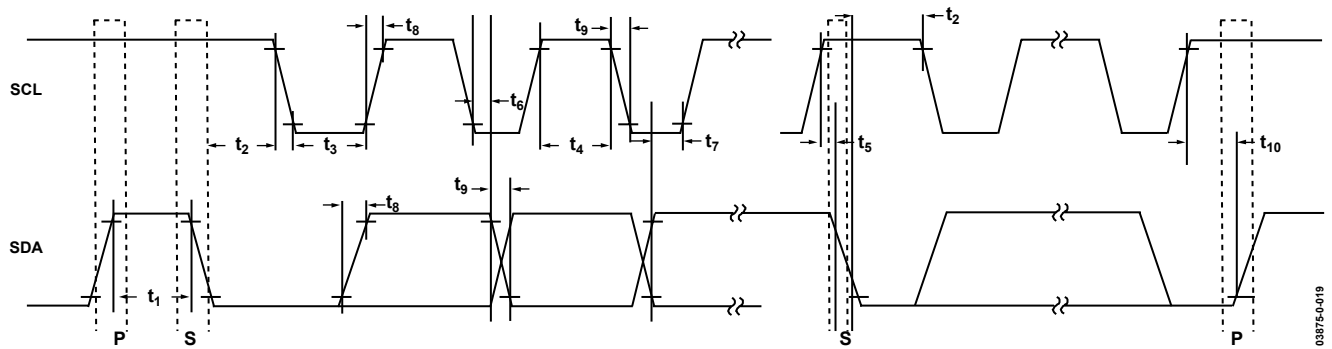
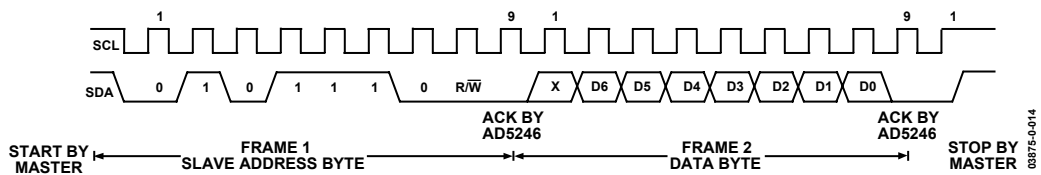
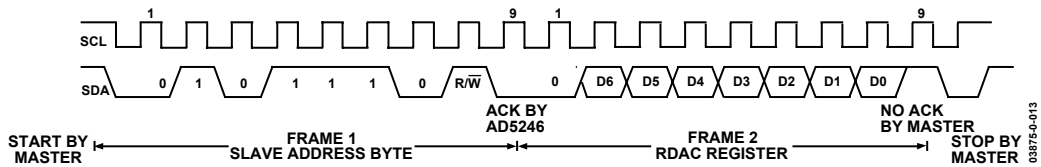

Figure 25. I²C Interface, Detailed Timing Diagram
Figure 26. Writing to the RDAC Register
Figure 27. Reading from the RDAC Register
³ See timing diagrams (Figure 25, Figure 26, Figure 27) for locations of measured values.
1. The master initiates data transfer by establishing a START condition, which is when a high-to-low transition on the SDA line occurs while SCL is high (see Figure 26). The following byte is the slave address byte, which consists of the 7-bit slave address followed by an R/W bit (this bit determines whether data will be read from or written to the slave device).
3. In read mode, after acknowledgement of the slave address byte, data is received over the serial bus in sequences of nine clock pulses (a slight difference from the write mode where eight data bits are followed by an acknowledge bit). Similarly, the transitions on the SDA line must occur during the low period of SCL and remain stable during the high period of SCL (see Figure 27).
4. When all data bits have been read or written, a STOP condition is established by the master. A STOP condition is defined as a low-to-high transition on the SDA line while SCL is high. In write mode, the master will pull the SDA line high during the tenth clock pulse to establish a STOP condition (see Figure 26). In read mode, the master will issue a No Acknowledge for the ninth clock pulse (i.e., the SDA line remains high). The master will then bring the SDA line low before the tenth clock pulse, which goes high to establish a STOP condition (see Figure 27).